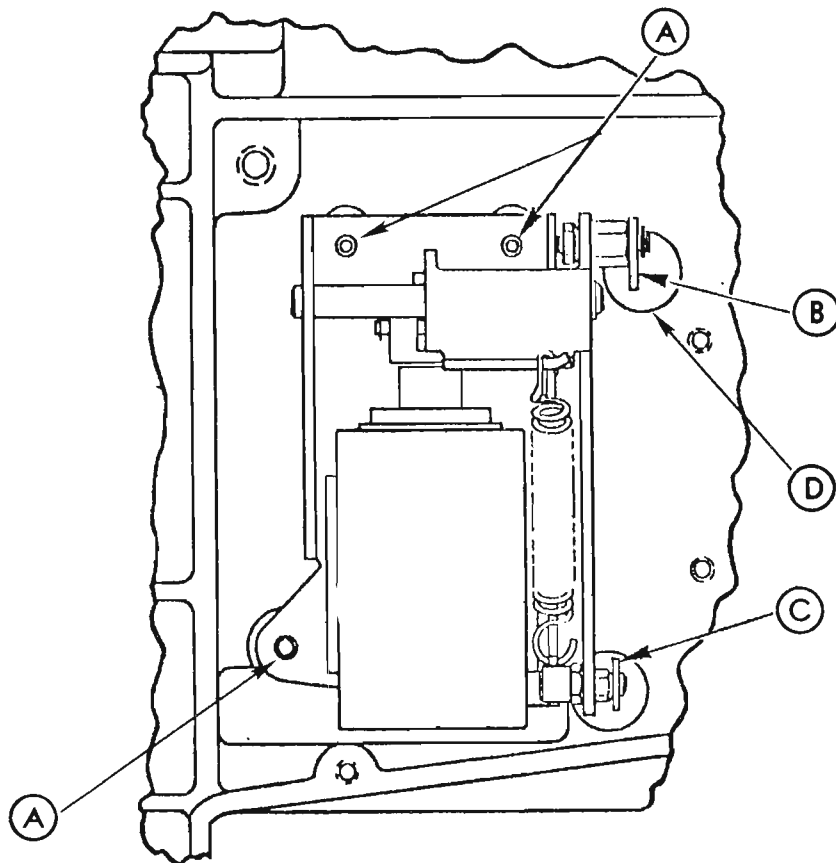

FIGURE 4-27
4. Remove the three mounting screws (A), shown in Figure 4-27, which fasten the solenoid to the baseplate. Remove the solenoid.